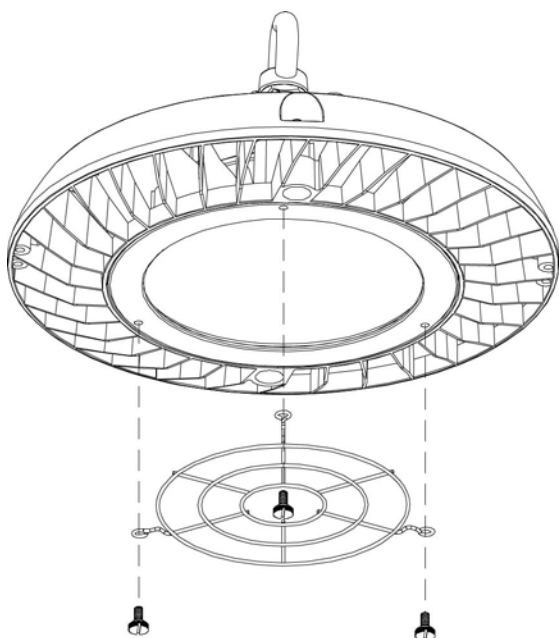

Figure 1
1.1 Remove screws on face of JEBL fixture to allow Wire Guard mounting hole slots to be secured to fixture surface (see Figure 1).